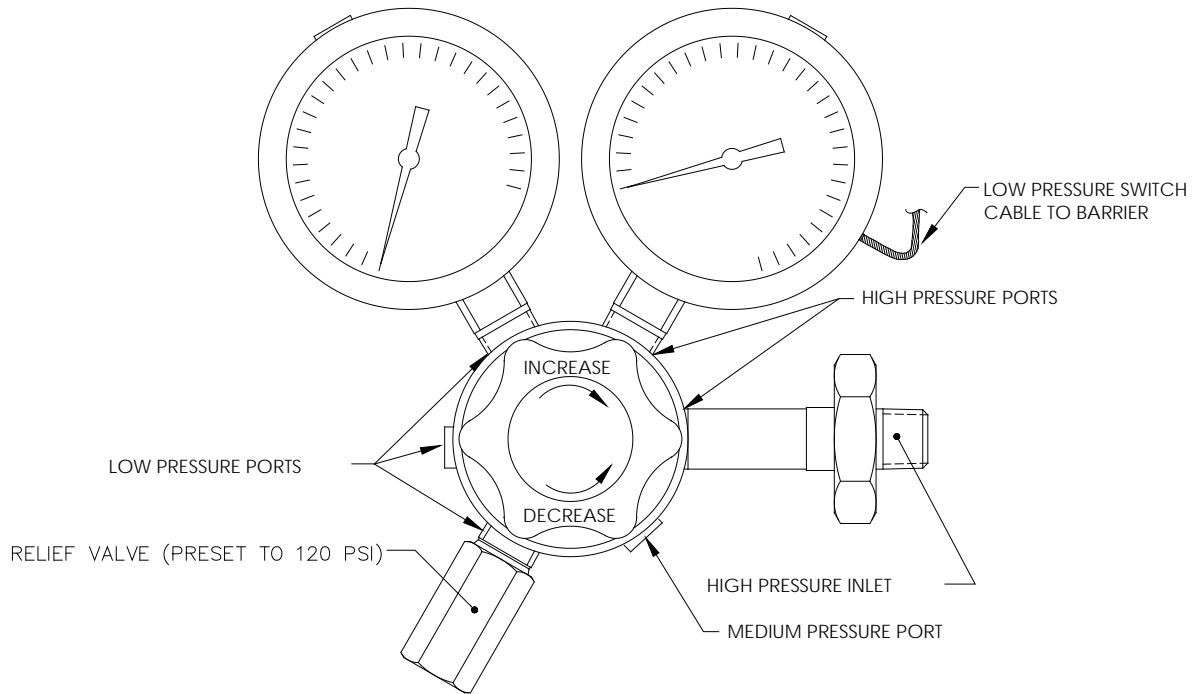

Figure 3-39 Carrier Gas Pressure Regulator with Relief Valve
- Carrier regulator assembly with low pressure switch (see Figure 3-39)